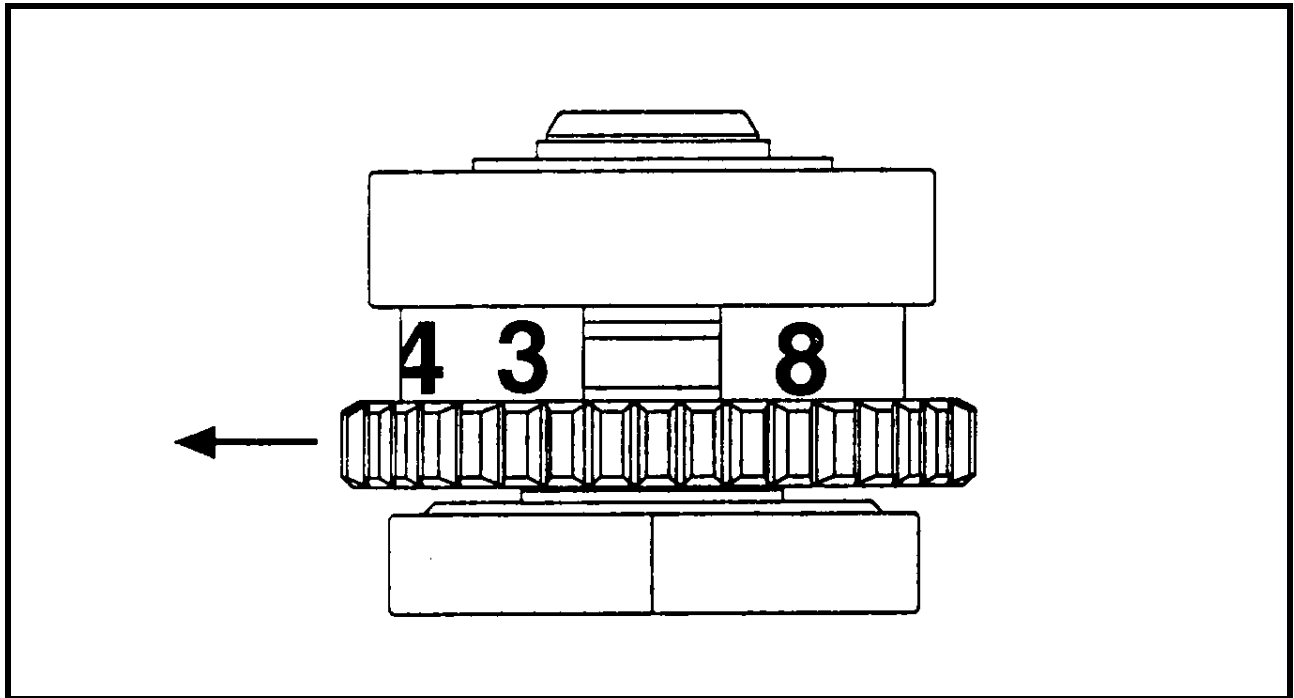

Figure 4-11 Range/Elevation Dial .
- c. **Step Three.** Turn the range/elevation dial clockwise until the range/elevation dial lock lines up with the index line on the rear base of the mount sight (see Figure 4-11).
- b. **Step Two.** Turn the range/elevation dial clockwise until the range dial lock lines up with the index line on the rear base of the mount sight (see Figure 4-11).